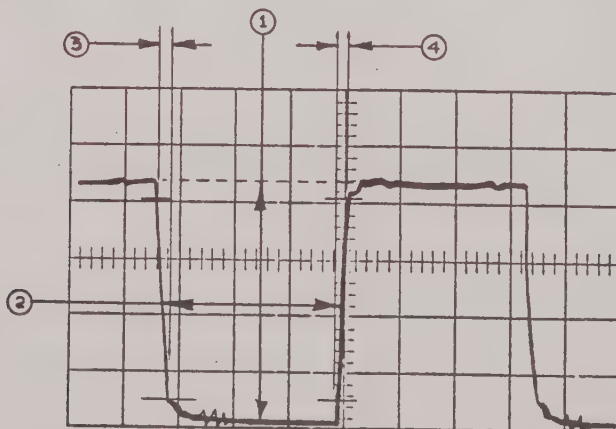

Figure 11: Transmit Bit Sync
- d. Adjust the Oscilloscope's trigger level and position controls for the waveform of Figure 11. Measurement ① should be between 4.5 and 5.5 cm (4.5 and 5.5 volts). Measurement ② should be between 3.0 and 3.5 cm (300 and 350 nsec). Measurements ③ and ④, taken at the 10% and 90% points, should be less than 0.5 cm (50 nsec).
- e. Using the 100 Ω , 1% Resistor whose ends are wired to alligator clips, fasten the Resistor between the probe's tip and the GRD terminal. Measurement ① of Figure 11 should now be not less than one half of Measurement ① taken in the previous step.
- f. Remove the probe tip and resistor from the TRANSMIT BIT SYNC jack. Insert the probe without Resistor into the RECEIVE BIT SYNC jack, and repeat steps d and e, above, using Figure 11 and the assigned measurement values.